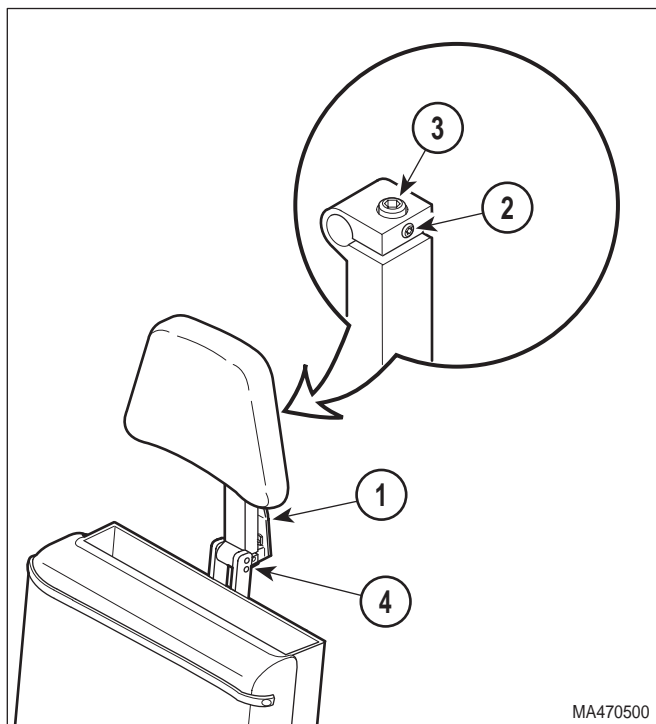

Figure 4-28. Headrest Adjustment
- (1) Unlock lock handle (1, Figure 4-28).
- (2) Loosen setscrew (2).
- (3) Tighten adjusting screw (3) slightly; then lock lock handle (1). Repeat this step until axis (4) has the strongest possible holding power, but operation of lock handle is not too difficult.
- (4) Tighten setscrew (2).